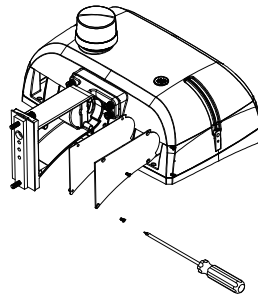
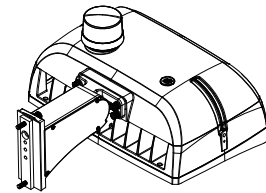

Figure 4-2
Figure 4-3
- Pass the cable through Pole Mount Bracket Part B (Figure 4-2). Assemble the two Pole Mount Bracket parts and fasten them with the fixing screws (Figure 4-3).